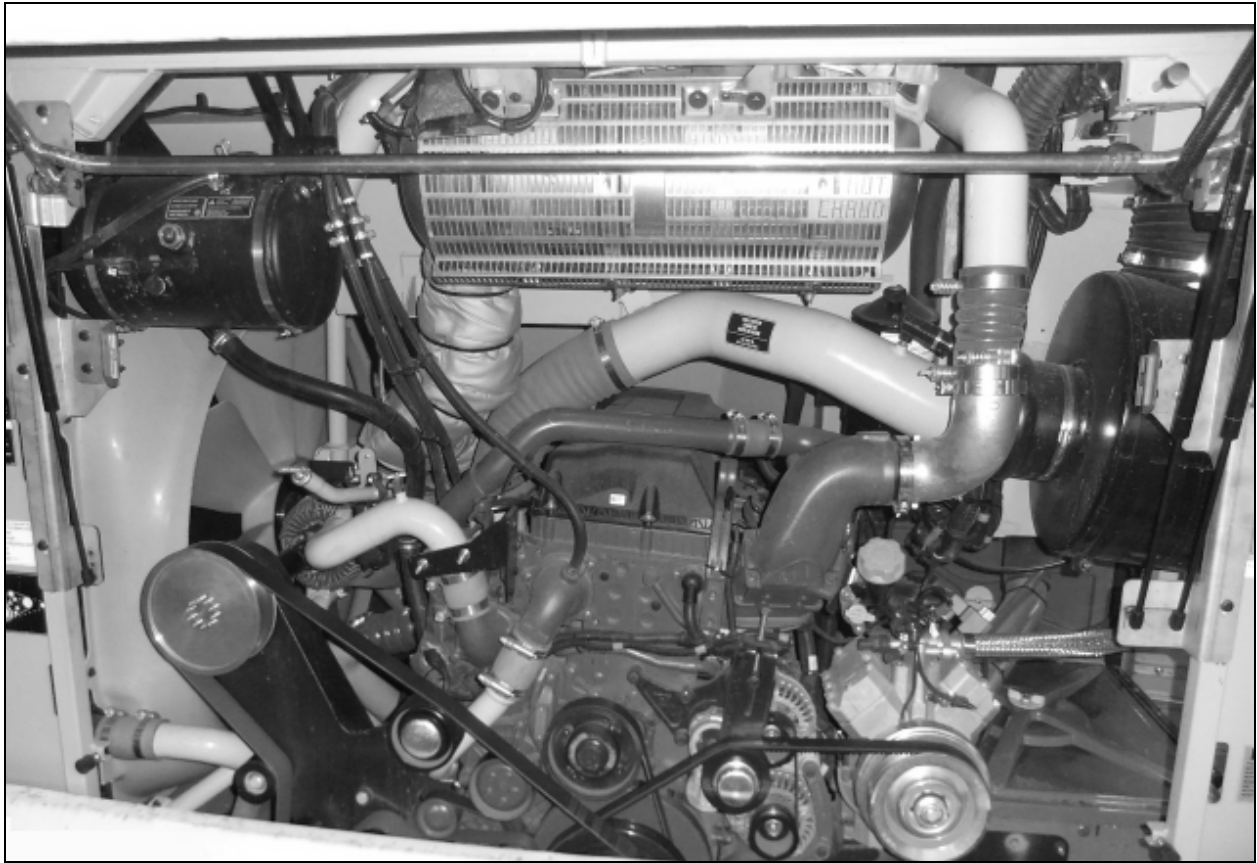

FIGURE 11: TYPICAL ENGINE COMPARTMENT(X3 COACHES SHOWN)
2. Make sure the ten retaining bolts, washers and nuts securing the power plant cradle to the *vehicle rear subframe* are removed (Figure 11).
Two engine support brackets are used at the front of the engine while two rubber mounts are mounted underneath the engine & radiator fan drive mechanism support and the engine & alternator support (Figure 11).